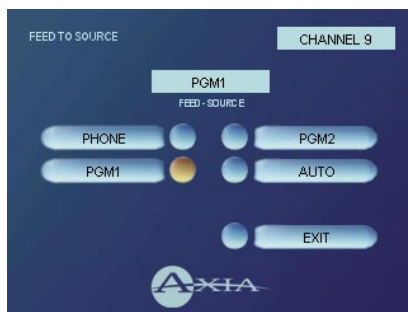

Figure 4-6: Feed To Source menu screen.
- **Feed Source** changes the right-hand screen to display the Feed To Source menu (Figure 4-6). This item only appears on the **Channel Options** menu if the assigned source (i.e., a codec or phone hybrid) has an associated backfeed or mix-minus, and determines the source of the audio being backfed to the channel source. This selection is normally pre-